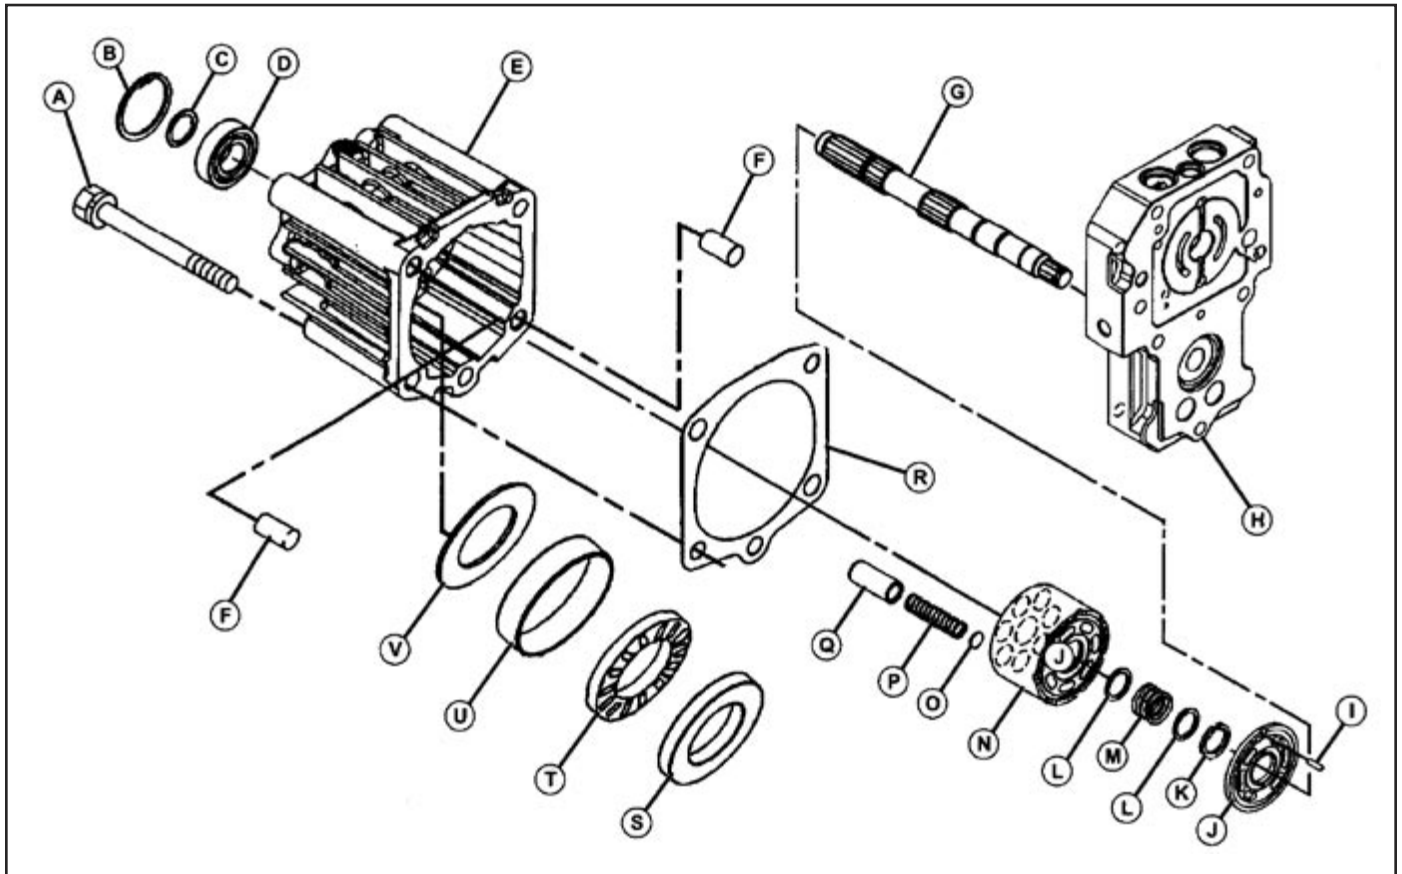

Fig. 56, Hydrostatic Transmission Motor Disassembly (4WD)
2. Remove two cap screws (A). (Fig. 56)
8. Thrust bearing (T) must rotate freely. (Fig. 56)
NOTE: Thin thrust plate (V), bushing (U) and motor case (E) must be replaced as a set. (Fig. 56)
9. Inspect thin thrust plate (V) for wear or damage. Replace as necessary.
10. Remove snap ring (B) to remove shaft assembly components.
11. Inspect bushing (U), thrust bearing (T) and shaft (G) for wear or damage. Replace if necessary. (Fig. 56)